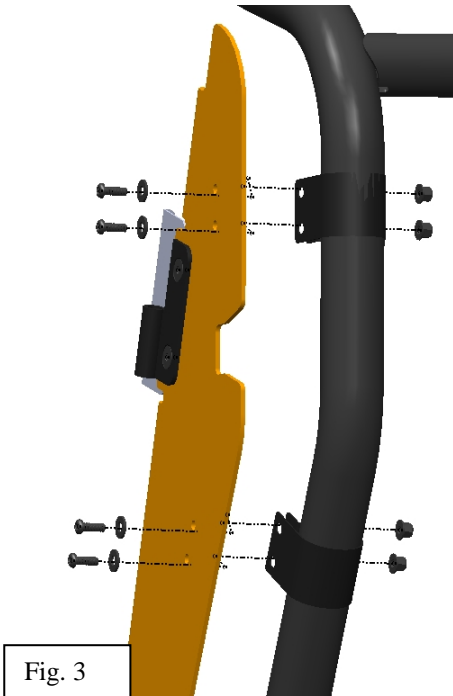

Fig. 3
3. Place (2) strap clamps into position on the frame bar as shown in Fig. 3. Fasten the strap clamps to the driver closeout bracket using (4) M6 x 18mm screws, (4) 1/4" flat washers, and (4) M6 nylock nuts.